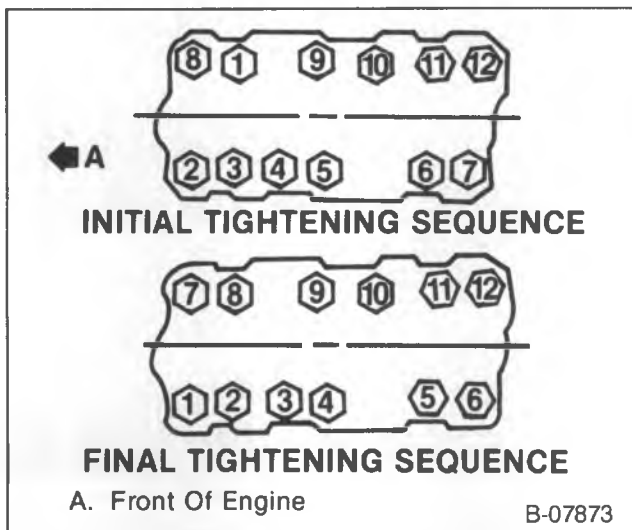

Figure 41—Intake Manifold Bolt Tightening Sequence
- Bolts to 48 N·m (35 ft. lbs.) using the tightening sequence shown in figure 41.